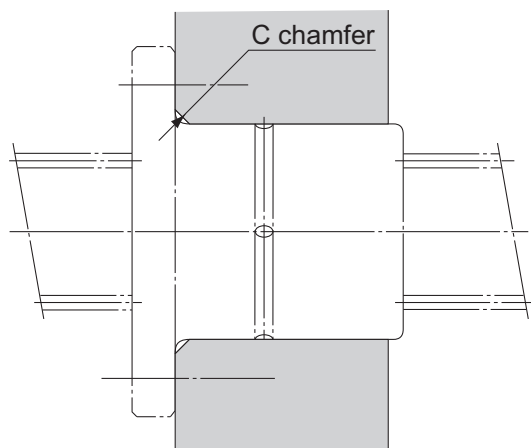

Fig.1
From the diagram of pV values (see Fig.1 on A-517), it is judged that there will be no abnormal wear if the sliding speed (V) is 13.5 m/min or below against the "p" value of 1.73 N/mm2. Therefore, it is appropriate to select model DPM3560.